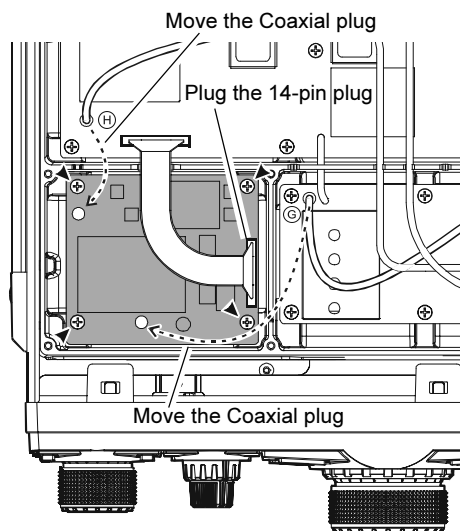

FIGURE 3
5. Mount the SCOPE Unit using the supplied four screws (Figure 3).
6. Referring to Figure 3, plug the 14-pin plug which was removed from the chassis in the previous step into the J7002 connector on the SCOPE Unit.